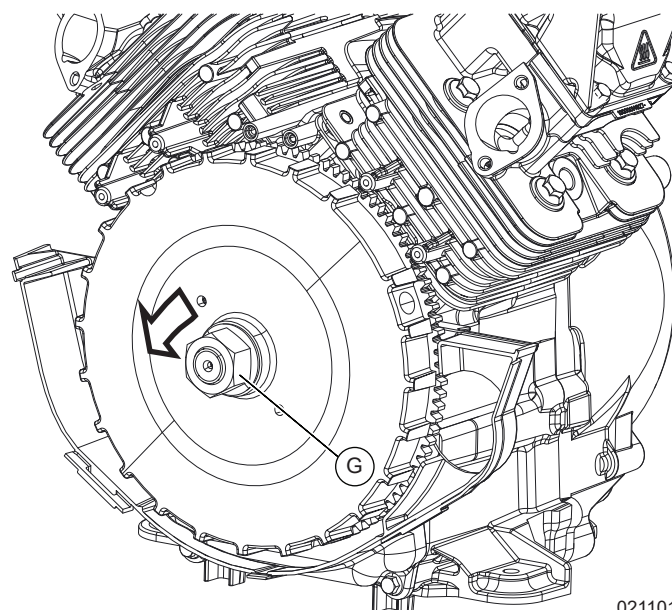

Figure 6-22. Loosen Flywheel Nut
3. See Figure 6-22. Loosen flywheel nut (G) until it is flush with end of crankshaft threads.